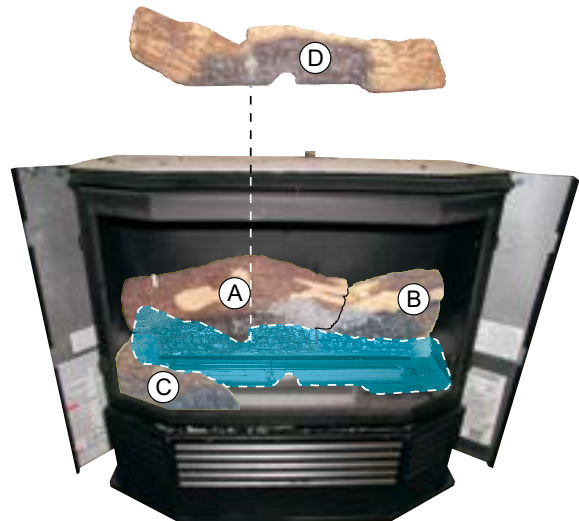

Figure 59
6. Place the Center Log (D) over the flame sensors in the middle of the firebox. Log (D) should be positioned to the left side of the firebox. See Figure 59.
9. Place the Top Left Log (F) onto the pins on (A) and (D) Logs. The "legs" of (F) Log will rest on (D) Log. The pins must fit into the holes in the bottom of (F) Log to ensure proper alignment of (A) and (D) Logs. See Figure 59.